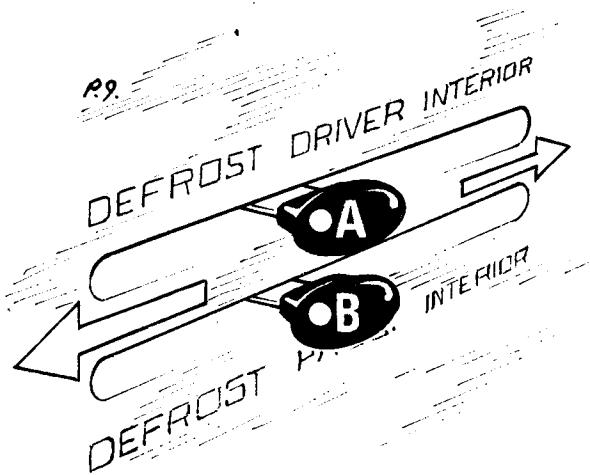

Fig. 1. HEATER CONTROLS.
Interior heating and ventilation can be controlled individually by both driver (A) and passenger (B) alike, using the control levers as shown in Fig.1.